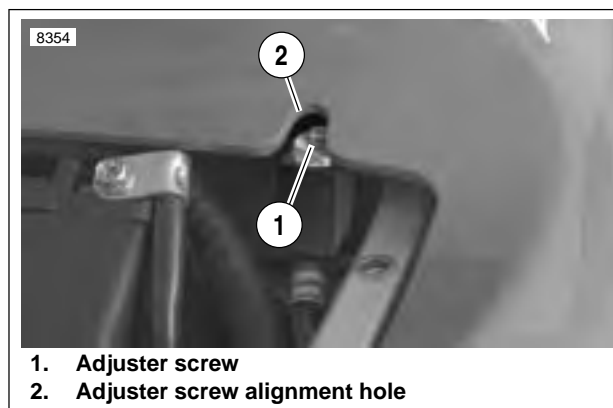

Figure 4-225. Adjuster Screw Alignment
See Figure 4-225. To ensure proper reservoir mounting, temporarily place upper body work onto tail section and adjust reservoir placement so adjuster screw (1) aligns with alignment hole (2).